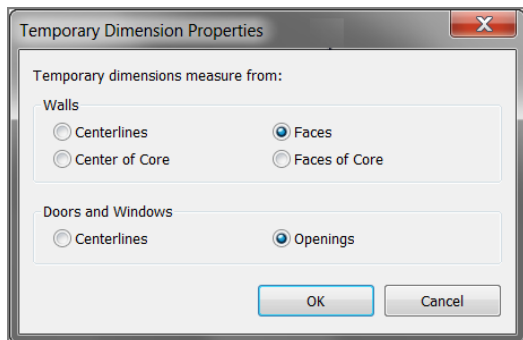

FIGURE 2.26: The most popular configuration for temporary dimensions
3. In the Doors And Windows group, select Openings, as shown in Figure 2.26.